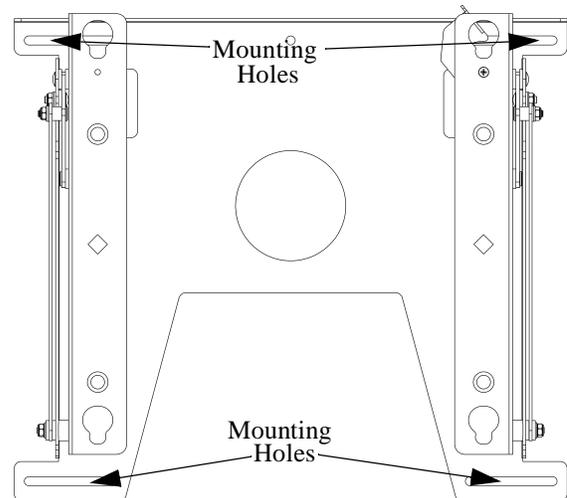

Figure 1. Mounting Hole Locations
2. With the mount correctly oriented and level, secure the mount to the wall (see Figure 1) using four 5/16 x 2-1/2" hex head lag screws and four 5/16" flat washers (included). Fasteners must be driven into the supporting 2" x 4" wood studs 16" on center.